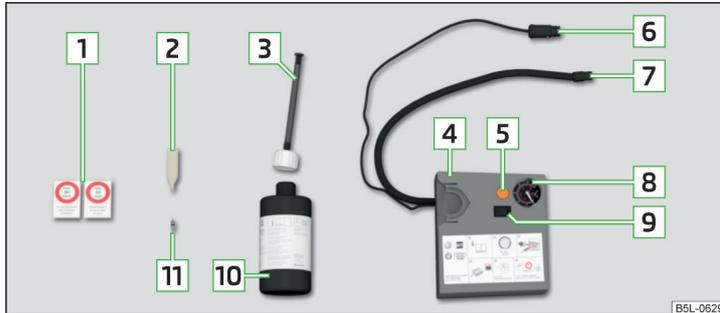

Fig. 137 Principle sketch: Components of the breakdown kit
Components of the set » Fig. 137
- Stick the sticker **1** » Fig. 137 on page 161 on the dashboard in the driver's field of view.
- Forcefully shake the tyre inflater bottle **[10]** » Fig. 137 on page 161 back and forth several times.
- Screw the tyre inflation hose **[7]** » Fig. 137 on page 161 of the air compressor firmly onto the tyre valve.